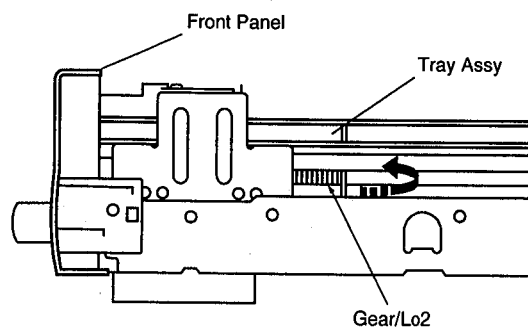

Fig. 2
b. Turn Gear/L02 as shown in Fig. 2 counter clockwise gradually till immediately before the tray starts to move and stop it there.